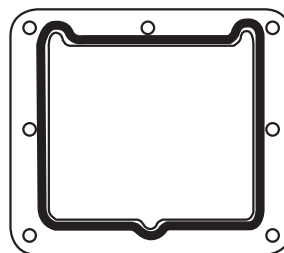

FIG. 2c
- Apply to the Fan Housing (B) outlet inside the bolt holes [FIG. 2c].